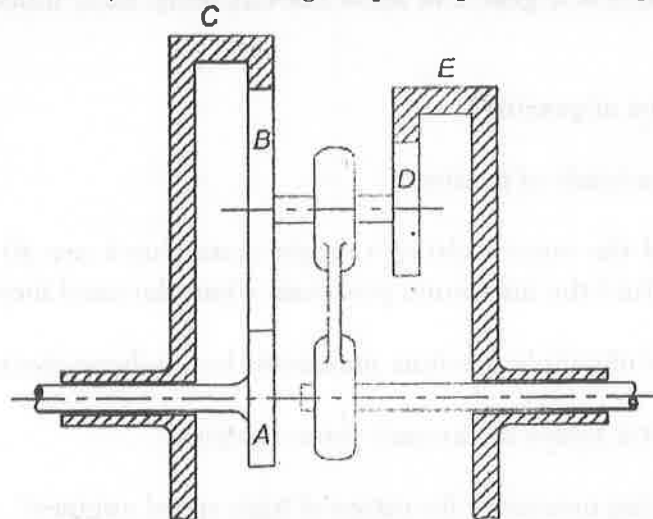

Figure 12(b)
- (b) Figure 12(b) shows an epicyclic gear train in which the driving gear A has 20 teeth, the fixed annular gear C has 150 teeth and the ratio of teeth in gears D and E is 21:50. If 2 kW of power at a speed of 800 rpm is supplied to the gear A, determine the speed and the direction of rotation of gear E. Also, find the fixing torque required at the gear C.